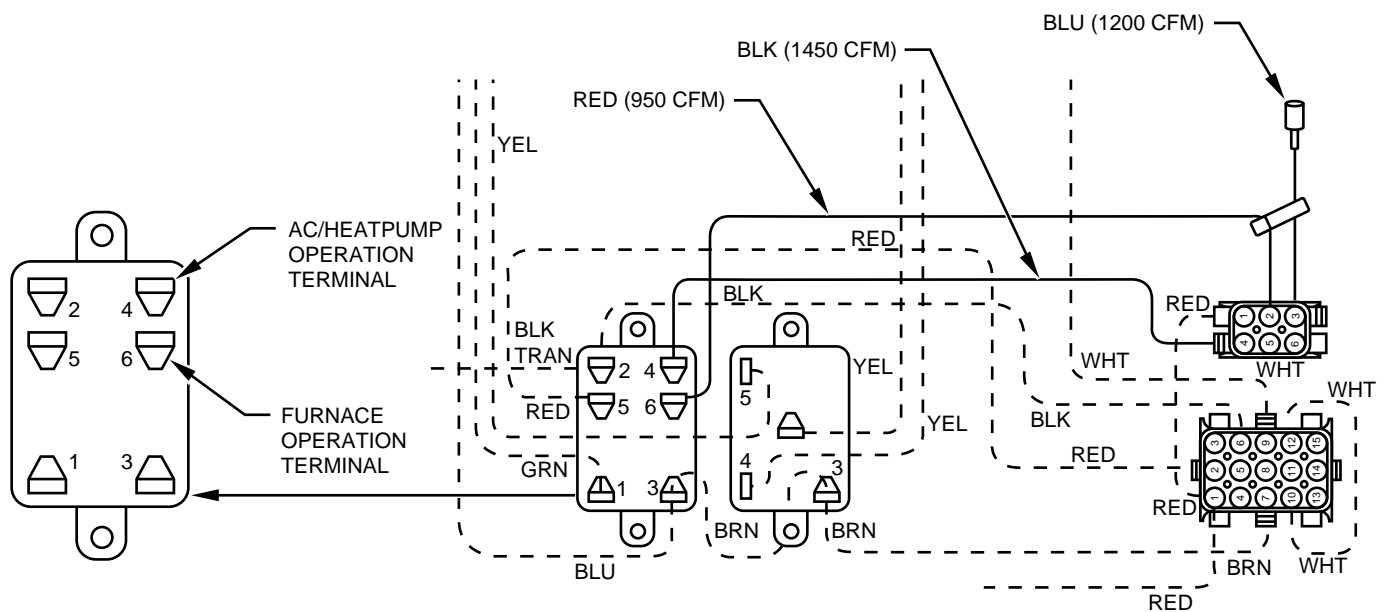

Fig. 3A—CFM Selection Wiring Layout
- b. Located inside the blower control box are 4 wires connected to the 6-pin receptacle. One is a red jumper wire to the 15-pin receptacle. The remaining 3 wires control the blower cfm as follows: red - 950 cfm, blue - 1200 cfm, and black - 1450 cfm. Refer to Table 1 and Table 2. Terminal number 4 on the relay is for air conditioner/heat pump operation. (See Fig. 3A.) Terminal number 6 on the relay is for furnace operation. Make proper cfm connections. (See Fig. 3A or 3B.)